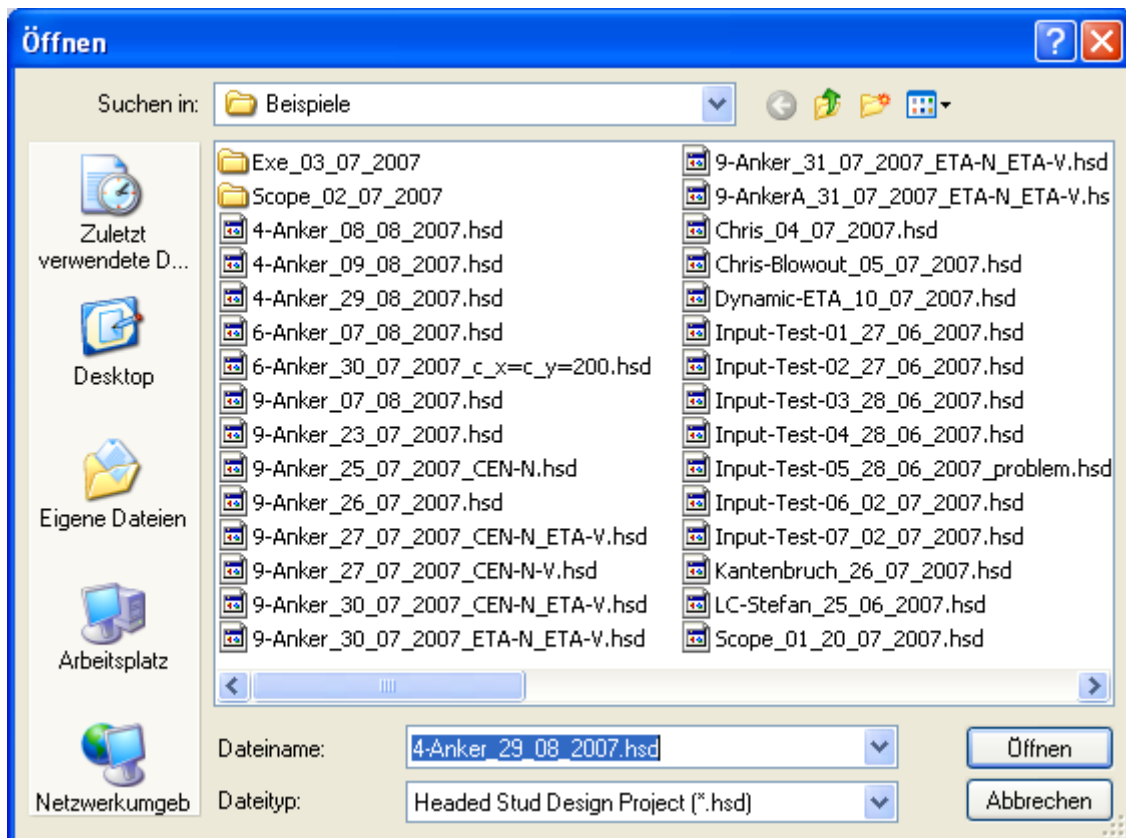

Figure 3.23: The Open Dialog
The appearance of the *Open Dialog* depends on the operating system (OS) in use. See Figure 3.23 for an example. A project file (with extension ".hsd") can be chosen from the different media devices of the computer.